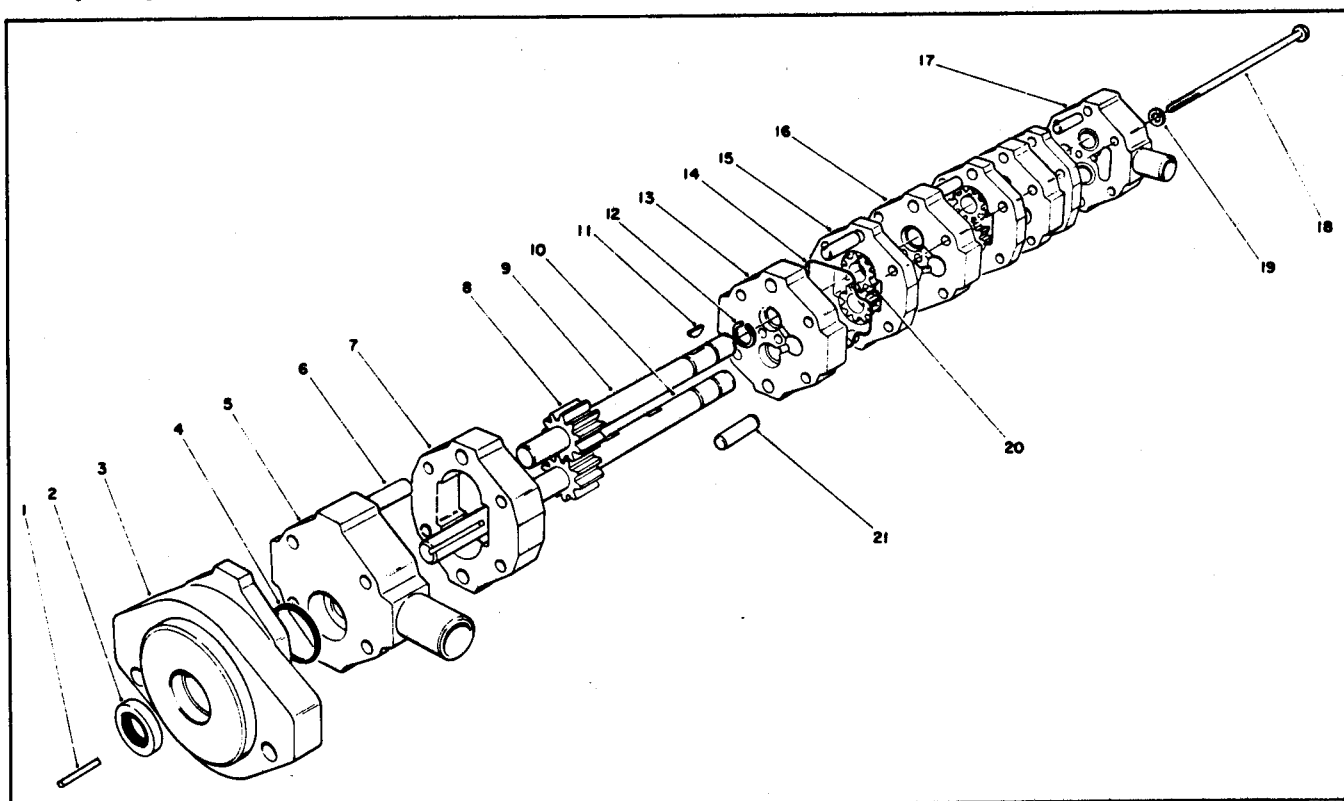

Figure 21
3. Secure the flange end of the pump (Fig. 21, Item 3) in a vise with the drive shaft (Item 10) pointing down.
8. Remove and discard the oil seal, o-ring and seal rings (Fig. 21, Items 2, 4 and 14) as the pump is disassembled.